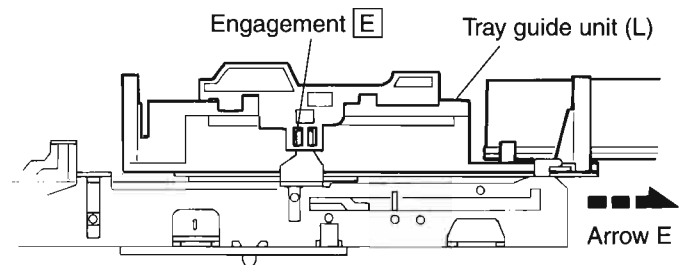

Fig. 8
4. Disengage the two engagements ④ fixing the tray guide (L) unit while moving the engagements in the arrow E direction (see Fig. 8).
5. Pull out the engagement ⑤ from the mechanism chassis, and remove it together with the CD tray (see Fig. 8).